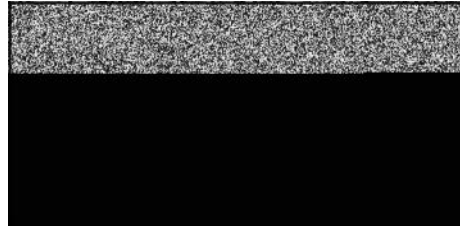

Figure 6
Tachometers #19200 (A) or #19389 (B, Figure 6) are available from your Briggs & Stratton source of supply.